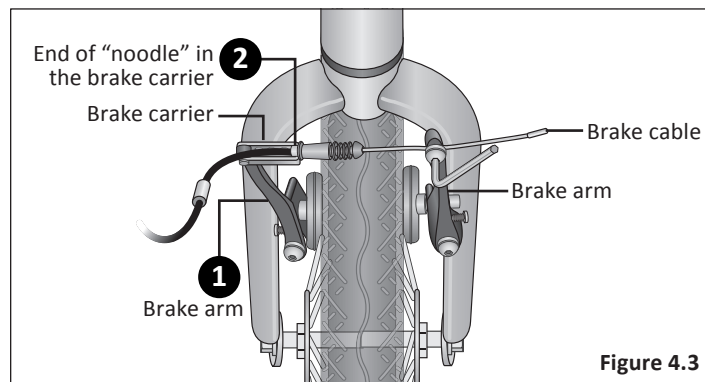

Figure 4.3
- 1** Squeeze the two brake arms together until the brake pads touch the wheel rim. **Figure 4.3**